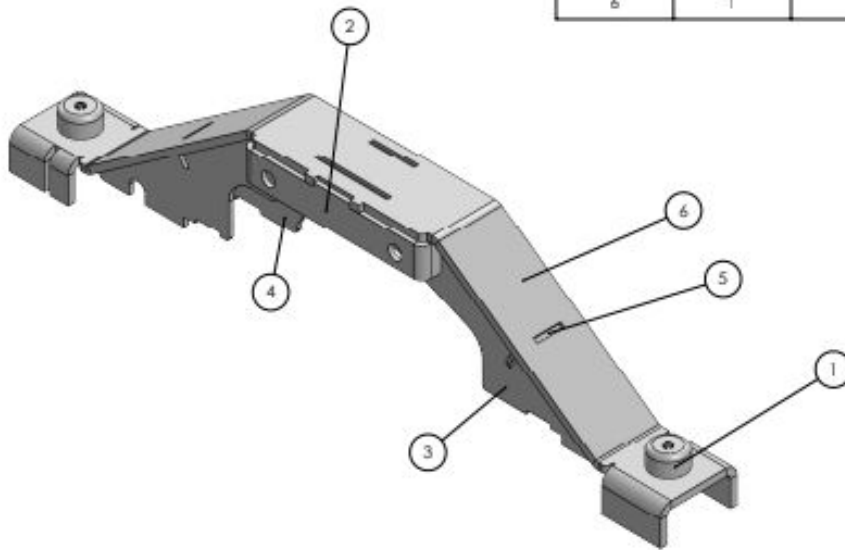

Figure 1-1
- Review the parts list for the truss in *Figure 1-1* and familiarize yourself with all of the components.